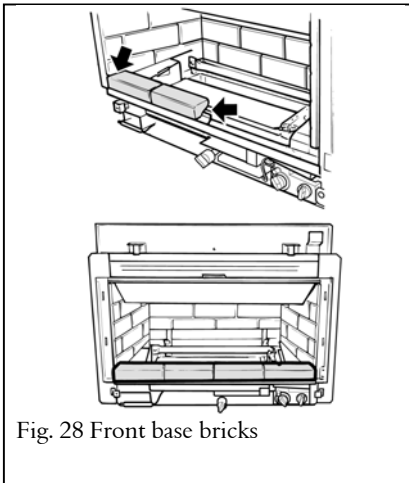

Fig. 28 Front base bricks
- 7.8.3 Install the front base bricks. (The right hand brick has a small notch). Place the bricks on the firebox front ledge with the front face of the bricks behind the lip at front of the ledge. Their inner ends should rest on the centre angled support and their outside ends should be under the cut-outs at the front of the side walls (fig. 28).